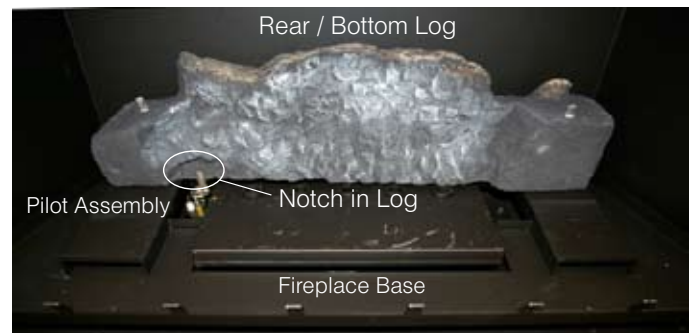

Figure 30a. Placing Bottom Rear Log.
- Step 2. Place the bottom Rear log as shown in figure 30a.